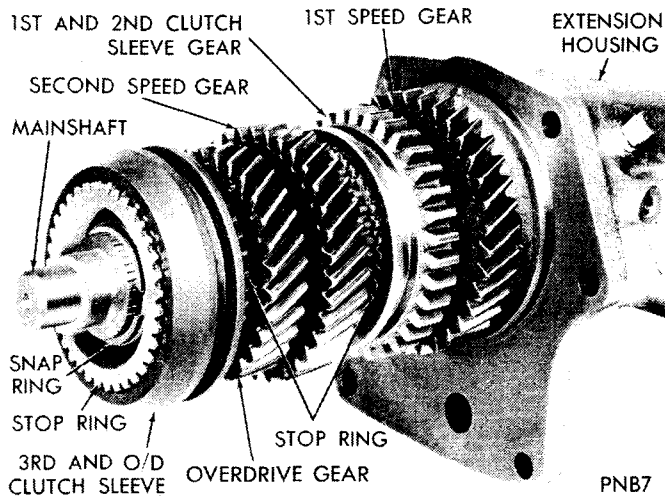

Fig. 15—Mainshaft Gear Identification
(11) Refer to (Fig. 15) for location of various gears, synchronizer sleeves and clutches before disassembling mainshaft.